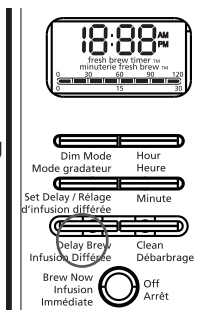

FIGURE 8
3. To activate the **DELAY BREW** function and program your coffeemaker to brew coffee at a later time, press the **DELAY BREW** button once. The coffeemaker is now set to automatically brew coffee at the pre-set time (Figure 8).
Press the **DELAY BREW** button until all lights turn off (Figure 8).